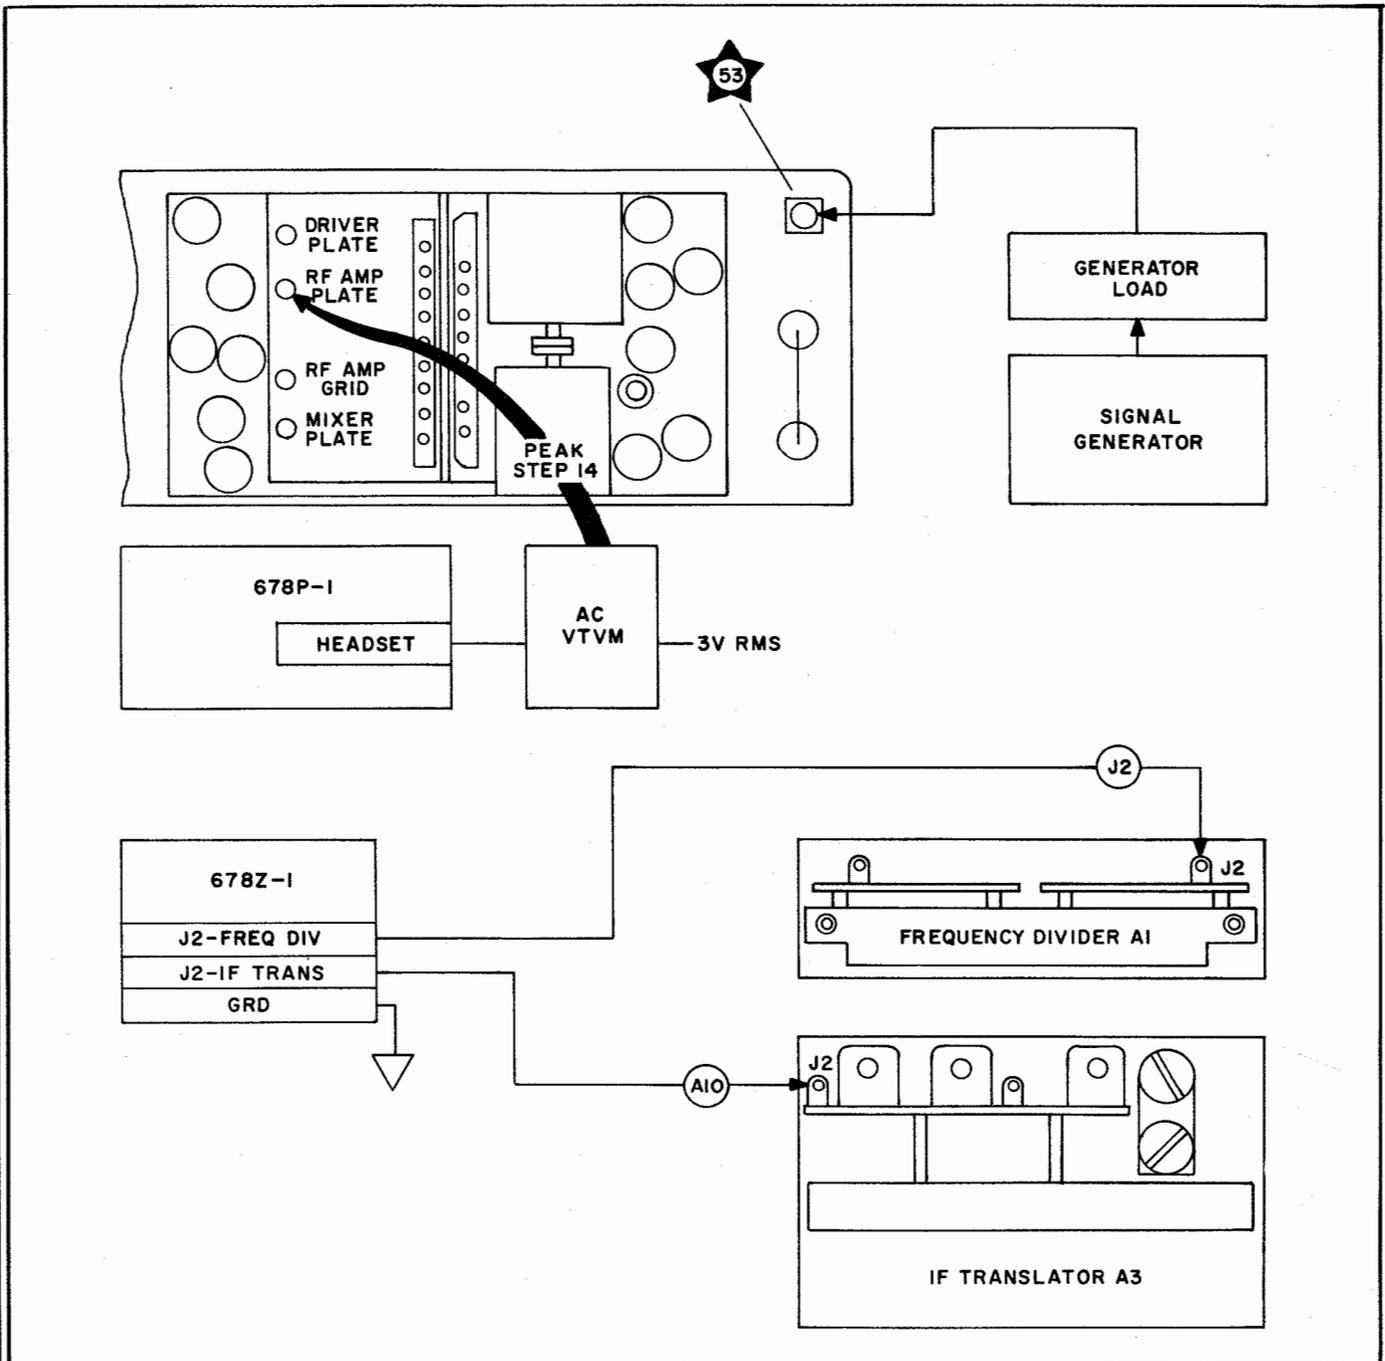

Figure 6-27A. Receive/Transmit Gain Balance Check
6-190. Perform the receive/transmit gain balance check. Remove rf translator module A12 from the module extender. Remove the module extender from the chassis. Install rf translator module A12 in the chassis. Leave the module cover off. Refer to figure 6-27A, and proceed as follows:
e. Refer to figure 6-27A for location of RF AMP PLATE coil on rf translator module A12. Key again, and adjust this coil for maximum rms voltage at test-point 51. Unkey.